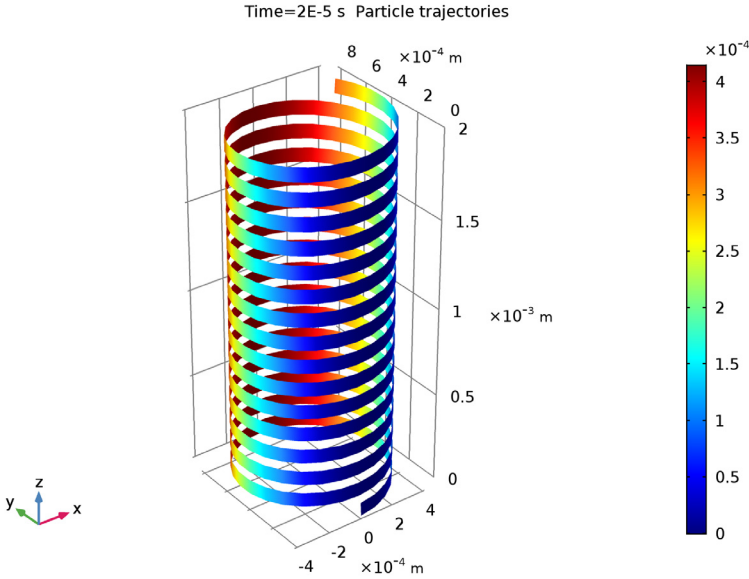

Figure 2: Plot of the ion trajectory for the Hamiltonian formulation.
- 9 Click the **Zoom Extents** button on the **Graphics** toolbar. The plot should look like Figure 2.